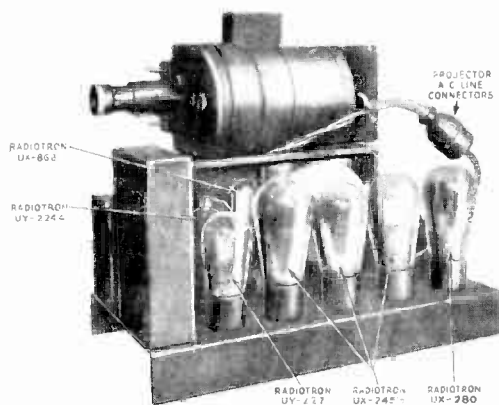

Fig. 14 - TYPE PB-29 PROJECTOR-AMPLIFIER UNIT, SHOWING LOCATION OF TUBES.
- (c) One or more of the tubes not in its socket or inserted into the wrong socket. The correct arrangement of tubes is shown in Figure 14.
from the tubes UY-227, UX-245, and UX-280 and insert them into their respective sockets. The proper arrangement of these tubes is indicated by the engraving on the amplifier base beside the tube sockets shown in Figure 14.